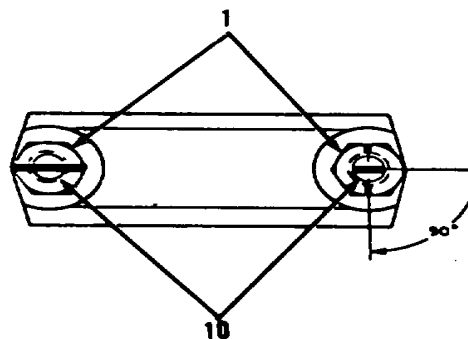

Figure 13-51.
18. Make a mark on each of two nuts (1) and bolts (10, Figure 13-51). Tighten two nuts (1) an additional 90 degrees.